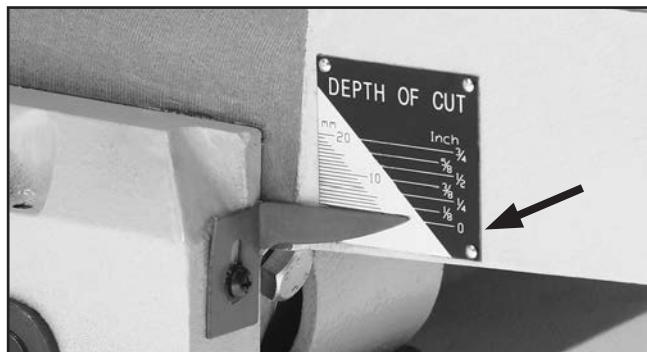

Figure 56. Depth scale adjusted to "0" position.
4. Using a screwdriver, adjust the scale pointer to "0" (**Figure 56**), then reset the infeed table positive stops.